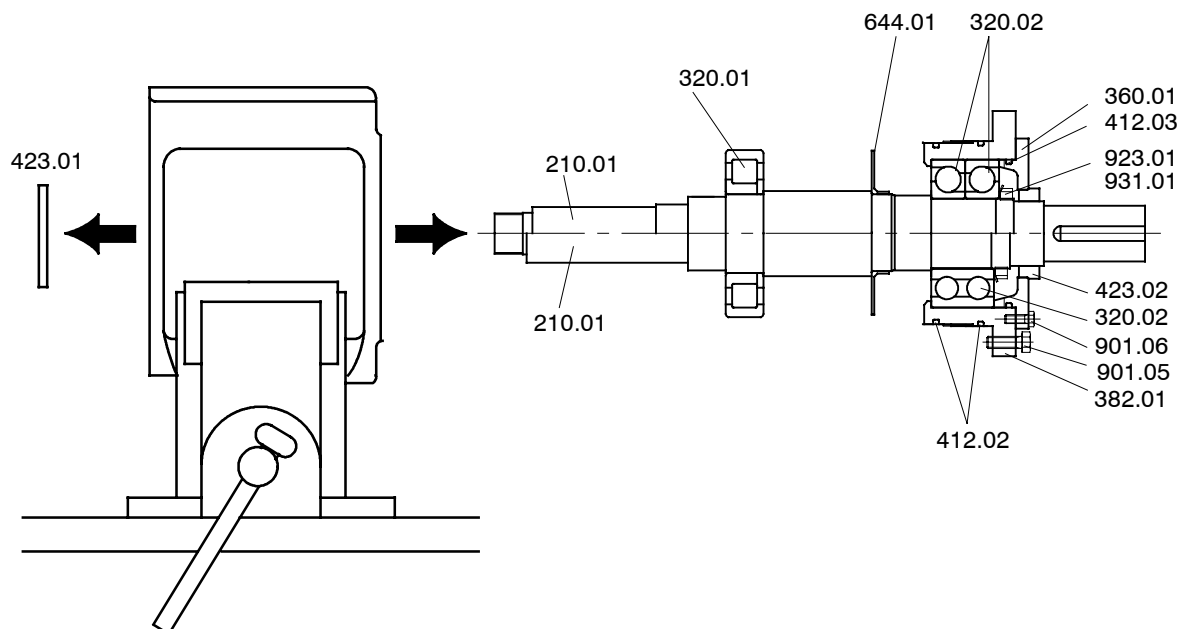

Fig. 6
- 4 Loosen the hexagonal screws (901.05) which tighten the bearing carrier. Fig. 6.
- 5 Rotate bearing carrier counterclockwise until shaft assembly can be taken away from bearing housing (330.01). Fig. 6.
- 13 Rotate from the bearing carrier to clockwise to set the shaft assembly into the bearing housing. Fig. 12. See also Fig. 6 in section Preventive maintenance.